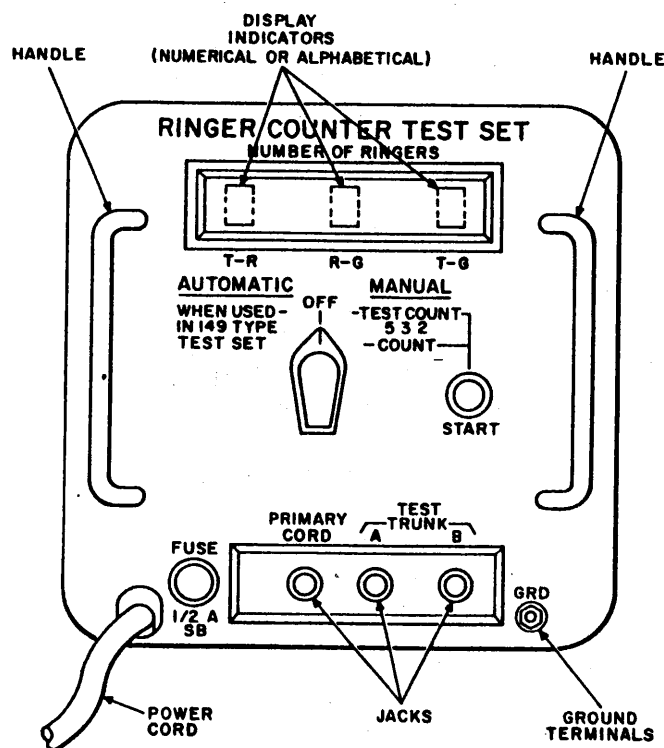

Fig. 2—Front Panel of 150A Ringer Counter Test Set
**2.02** A fuse holder is provided on the front panel (Fig. 2). The ac power circuit is fused with a one-half ampere slow blow fuse.